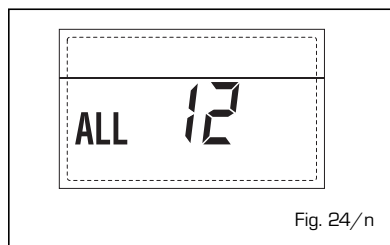

Fig. 24/n
**- SAFETY THERMOSTAT INTERVENTION FIRST MIXED ZONE "ALL 20"** (fig. 24/p)